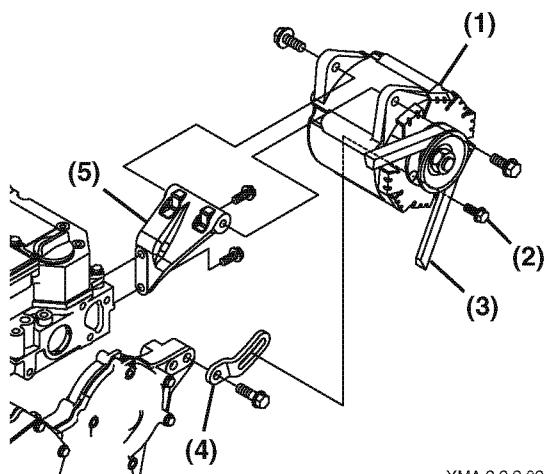

Figure 5-129
1. Loosen the belt adjuster setscrew (**Figure 5-129, (2)**) and push the alternator (**Figure 5-129, (1)**) downward.
3. Remove the V-belt (**Figure 5-129, (3)**).
4. Remove the belt adjuster (**Figure 5-129, (4)**) from the gear housing.
5. Remove the alternator and bracket (**Figure 5-129, (5)**) from the cylinder head.
1. Install the bracket (**Figure 5-129, (5)**) on the cylinder head and the belt adjuster (**Figure 5-129, (4)**) on the gear housing cover.
2. Install the alternator (**Figure 5-129, (1)**).
3. Adjust V-belt (**Figure 5-129, (3)**) tension with the adjuster and tighten the setscrew (**Figure 5-129, (2)**).